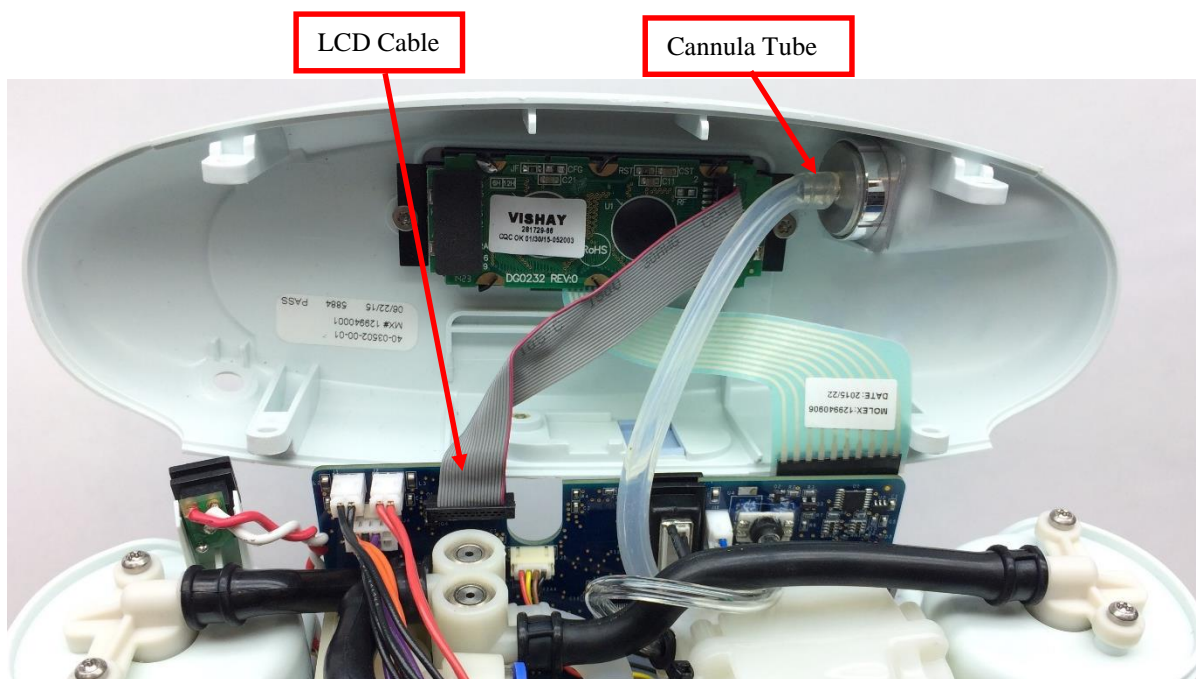

Figure 4: Remove cannula tube and LCD cable from user interface panel
3. Gently unplug the cannula tube and the LCD cable from the user interface panel (Figure 4). Remove the user interface panel.
4. Re-attach the cannula tubing to the cannula connector (Figure 4).